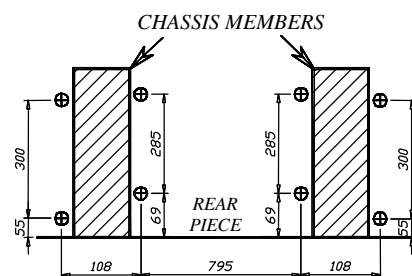
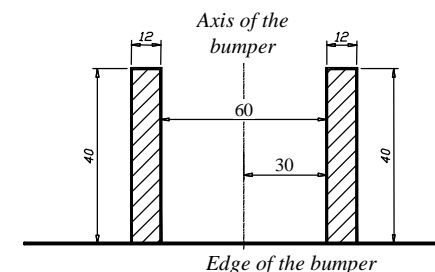

Fig. 2 View from the bottom of the car (after take off the bumper)
Fig. 3
2. From the bottom of the car mark points according to fig. 2. Next drill holes using bit $\varnothing 11\text{mm}$, make it very carefully.
3. Inside the trunk put suitable upper fish-plates (pos. 8) on to made holes.
4. From the bottom of the car put side brackets (pos. 4 and 5) and through holes (pos. A) and fish-plates (pos. 8) fix using bolts M10x35mm (pos. 11).
5. From the bottom of the car put fish-plates (pos. 6 and 7), next through holes (pos. B) and fish-plates (pos. 8) fix using bolts M10x35mm (pos. 11) .
6. Through holes (pos. C) fix main bar of the towbar (pos. 1) with side brackets using bolts M12x35mm (pos. 10).
8. Install the bumper after cut out of its fragments (see fig. 3).
9. Fix body of the automat (pos. 18) and the socket plate (pos. 3) using bolts M12x25mm (pos. 9) from accessories. Place tow-ball (pos. 2) according to supplied instruction.